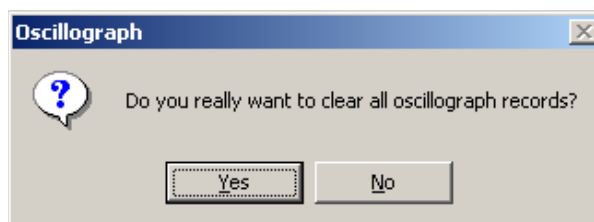

Figure 2-19 Clear Oscillograph Records Confirmation Screen
1. Select **Relay/Oscillograph/Clear**. IPScom will display the Clear Oscillograph Records confirmation screen (Figure 2-19).